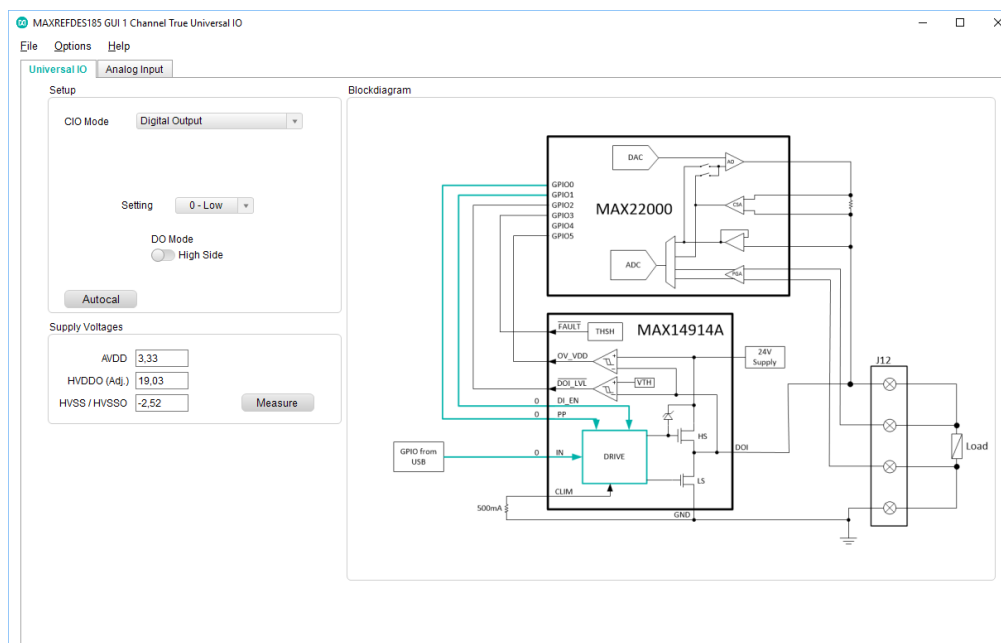

Figure 13. CIO Mode digital output.
24. **Digital Output:** The MAX14914A digital output (**Figure 13**) is set to limit the current to 500mA. It allows either high-side switching or push-pull switching, including support for inductive loads with a SafeDemag™ feature that provides fast and safe magnetic discharge of unlimited inductive loads.